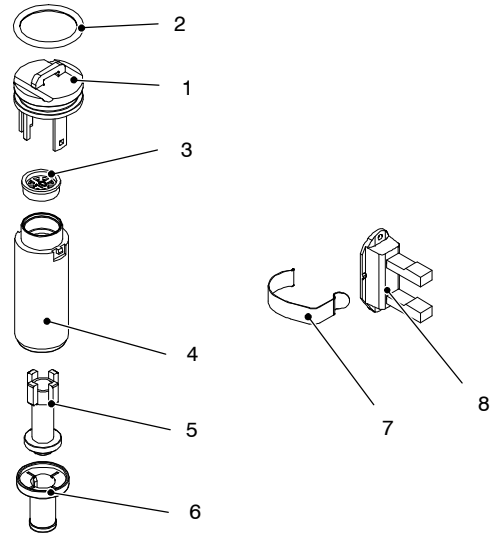

Fig. 14.3
When the flow rate through the d.h.w. circuit reaches about 2,5 litres/min', the float 5 (Fig. 14.3) is dragged upwards and the magnetic in it, getting closer to the sensor 8 closes the electric contact.
14.2 Description and location of parts (Fig. 14.3)
- 4 To remove the filter from the flow switch group separate the filter 6 from the body 4 (Fig. 14.3) by levering it.
- 3 Insert the flow limiter 3 as shown in Fig. 14.3